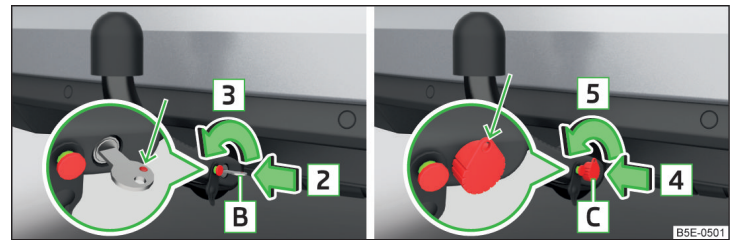

Fig. 305 Unlock lock: Key version 1 / key version 2
- Turn key **B** in the direction of arrow **3** so that the red marking is pointing upwards » Fig. 305.
- Turn key **C** in the direction of arrow **5** so that the eye of the key is pointing upwards » Fig. 305.